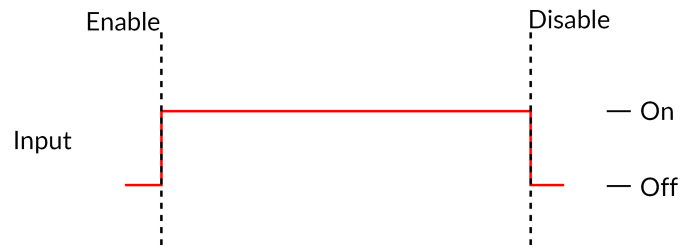

Figure 4.3: Constant Current Mode Driver Signal
- a) The **Continuous Wave** mode (Fig. 4.3) produces a continuous signal at the chosen current. This mode can only be triggered manually. When this mode is active, the driver channel will show **CW** under **MODE**. This mode has no additional sequence options.